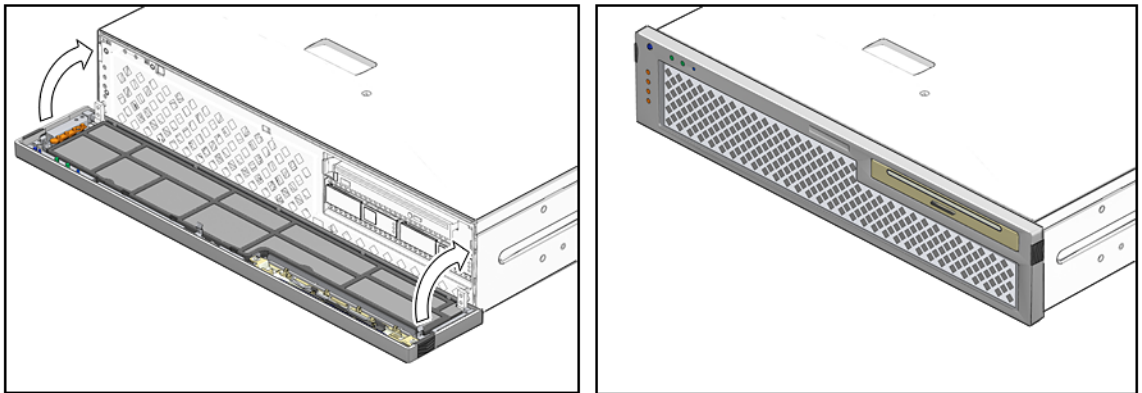

FIGURE 5-4 Closing the Bezel
3. Close the bezel (FIGURE 5-4).